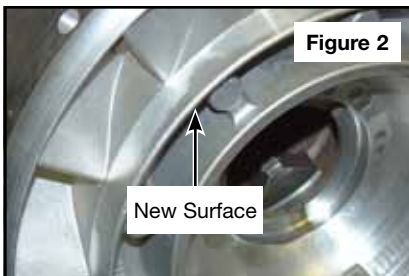

Figure 2
- b. Machine a new surface on the stator body casting forward of the inner blade mount points. Machine in far enough to be used as a new lathe chuck holding point, but avoid contacting the stator blades (Figure 2).